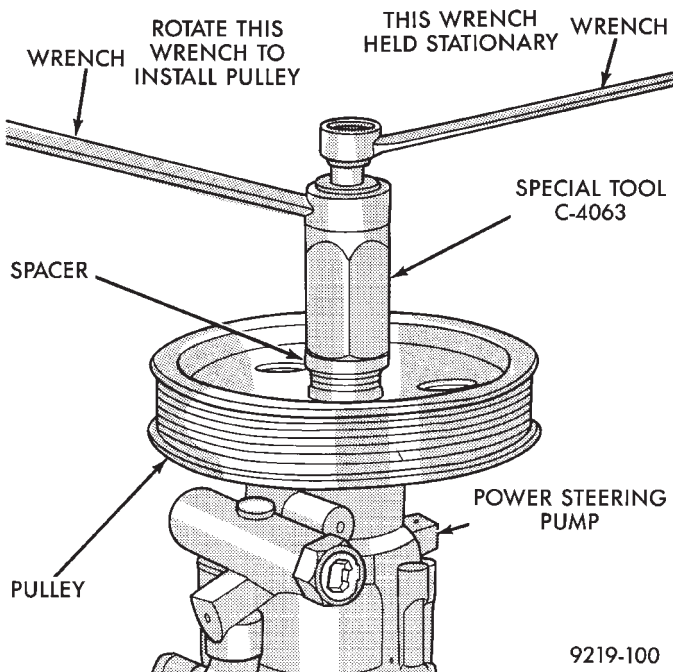

Fig. 39 Installing Power Steering Pump Pulley
(3) Insert the Pulley Installer, Special Tool C-4063, (without adapters) through hole in spacer. Thread the Installer, Special Tool C-4063, into the end of the power steering pump shaft (Fig. 39). Tighten the installer into shaft.
(4) Holding the Pulley Installer with one wrench so it will not rotate, turn hex (Fig. 39) down threaded rod of installer pushing the pulley onto the shaft of the power steering pump (Fig. 39). Ensure that the tool and the pulley remain aligned with the pump shaft so pulley does not become cocked on shaft.